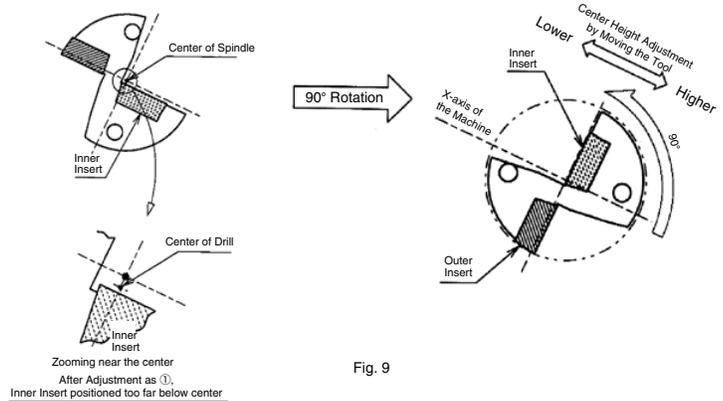

Fig. 9
- 2 If the core diameter becomes too large after the above adjustment, install the drill rotated 90° counter-clockwise as shown in Fig.9 (outer insert is positioned lower) and adjust the center height by moving the tool in the X-axis direction. (However, this makes it impossible to adjust the cutting diameter.)